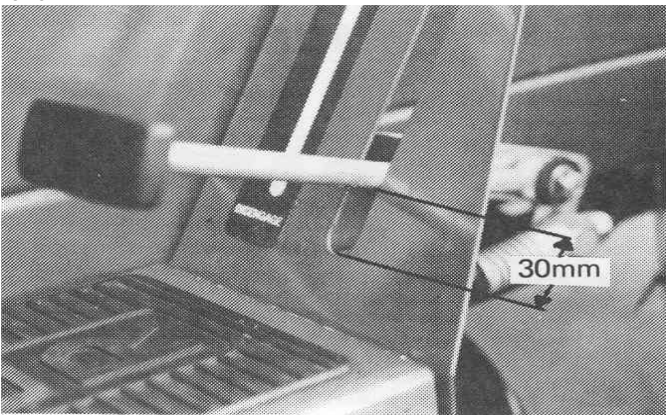
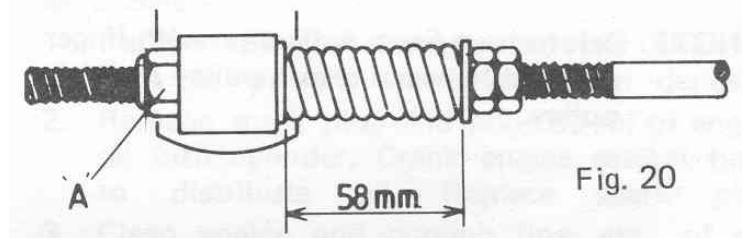

Fig. 18
Fig. 20
6. Adjust locknut 'A' in Fig.20 to give Cutter Engagement Lever a free travel of 30mm from bottom of slot in Fig.18.
3. Adjust tension on spring using lock nuts to give length of 58mm, Fig.20